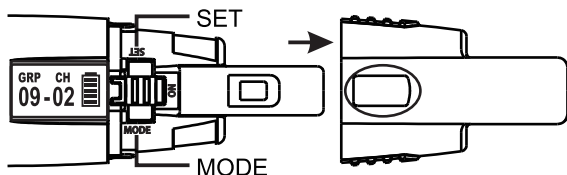

Fig. 4
1. Remove protection rear cover to expose MODE and SET buttons, Fig. 4.